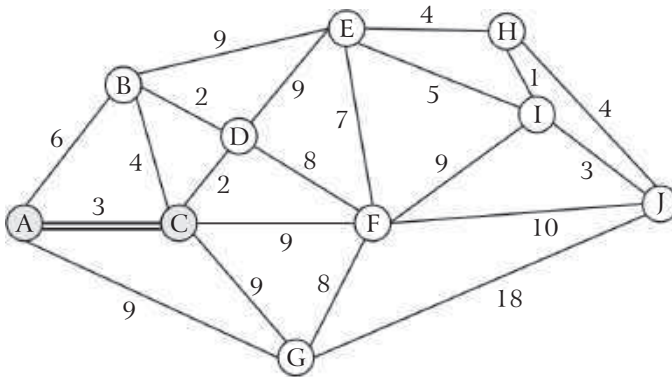

Fig. 8.7
Step 1: Starting with node (A) , we join it to its nearest node (C) . Thus, the connected set $C = \{(A), (C)\}$ and so unconnected set $\bar{C} = \{(B), (D), (E), (F), (G), (H), (I), (J)\}$. Thus, the branch joining nodes (A) and (C) is the chosen branch shown as dark black line in fig. 8.7.